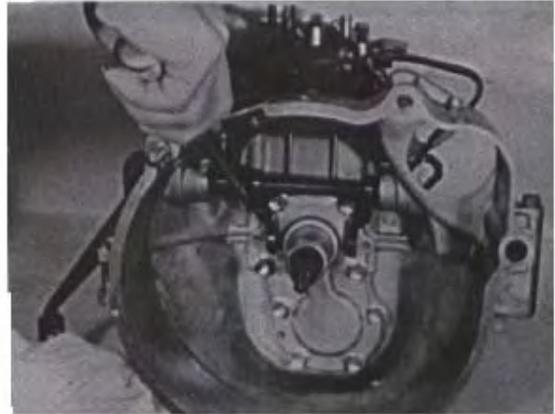

Fig10-8
- (2) Remove a part of spring from clutch release shaft lever. (FIG. 10-8)